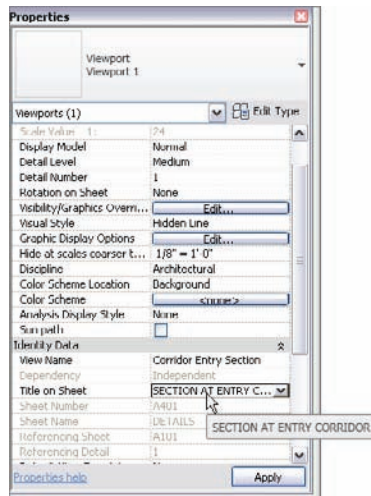

FIGURE 14.16 You can make the title on the sheet different from the view name.
3. In the Properties dialog, scroll down the list until you arrive at Title On Sheet, as shown in Figure 14.16.